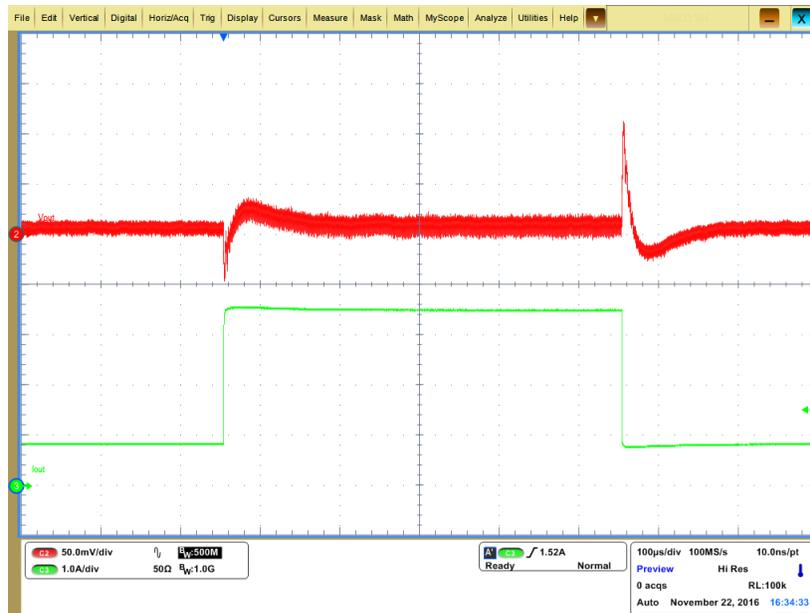

Figure 17. Transient Response Waveform, SMPS1
- Load starts at 800 mA, goes to 3.5 A, then returns to 800 mA (Figure 17)